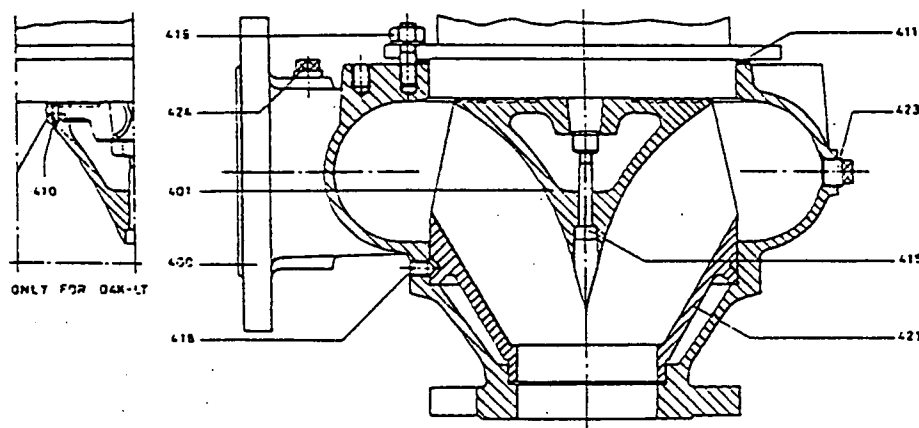

FIGURE 15 D3K, D4K, E4T
These pumps have a non-adjustable liner (421) held in a fixed position inside a one-piece volute casing. After removal of the three allen-head setscrews (418), this liner can be pressed out of the casing. See Figure 15.